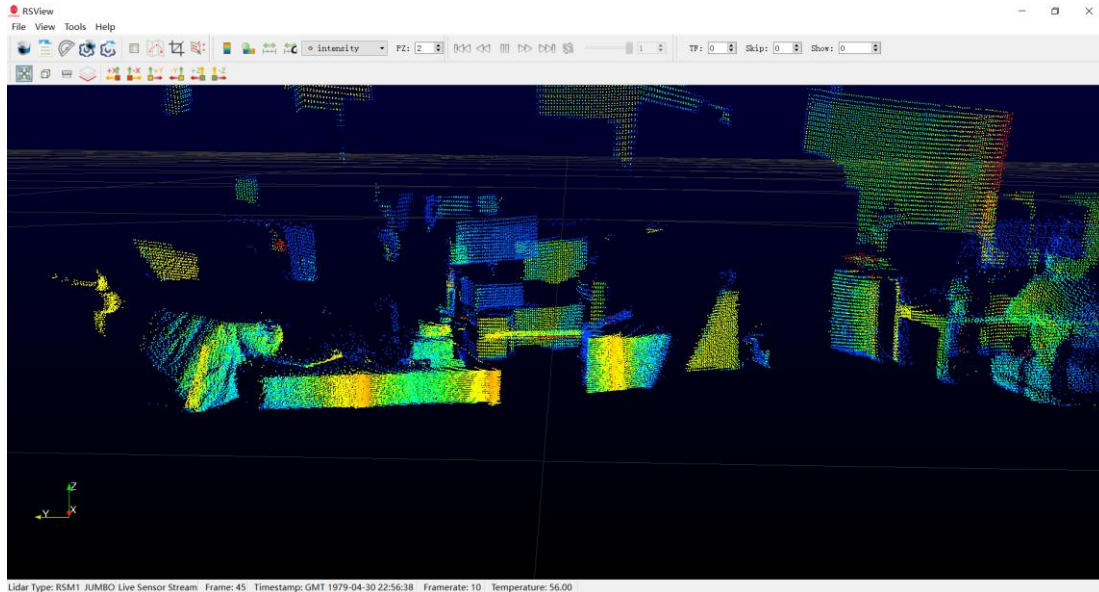

Figure A-4: RS-LiDAR-M1P Sensor Stream display
6. RSView begins displaying the colored point cloud from capturing the sensor data stream from LiDAR (as shown in Fig. A-4). The stream can be paused by pressing the **Play** button, click again, the stream continues.